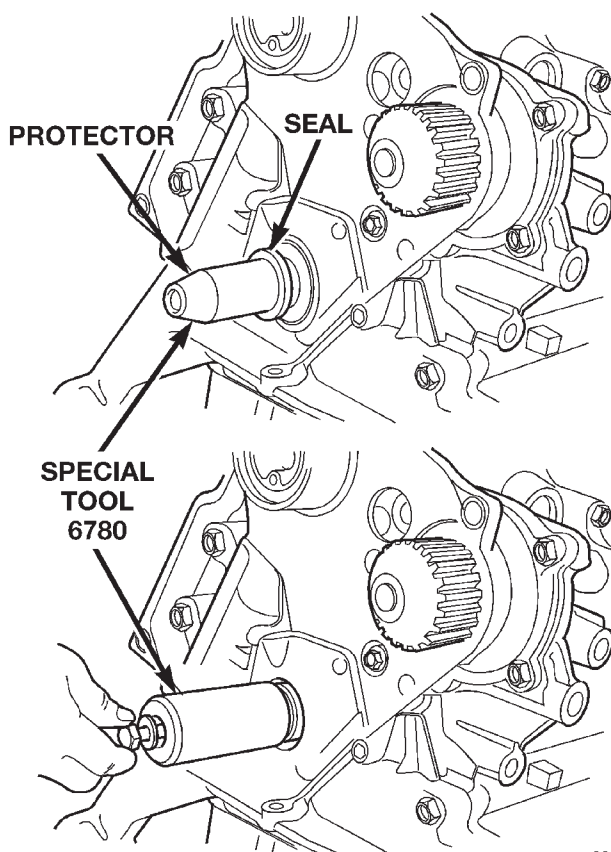

Fig. 80 Front Crankshaft Seal—Installation
- (5) Install new front crankshaft seal using Special Tool 6780 (Fig. 80).